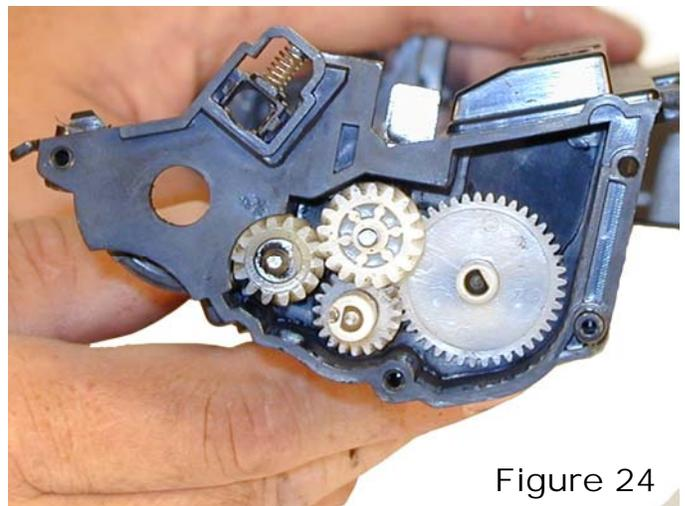

Figure 24
23) Install the 4 gears as shown. See **Figure 24**